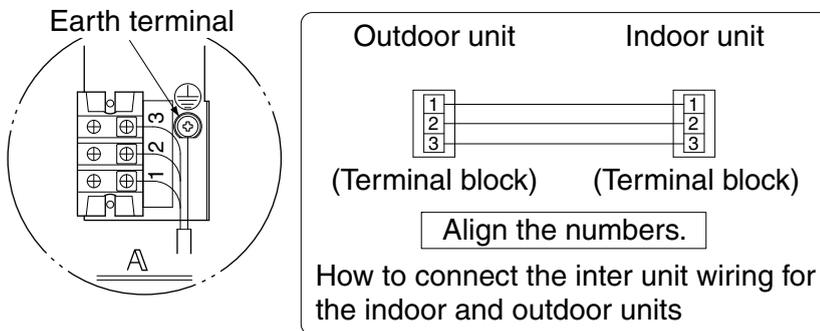

Fig. 29
- Detach the control box lid and pipe retainer as shown in the **Fig. 29** and connect the wires of matching numbers to the terminal block (X2M: 3P) on the right side of the unit. Connect the earth wire to the earth terminal. In doing this, draw the wiring into the unit through the hole for wiring, and fix it together with the earth wire using the clamp (8).